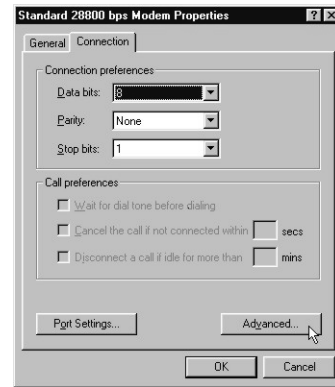

Figure 11 - Connection Properties
10. From the “Standard 28800 bps Modem Properties” select the “Connection” tab, then click on ADVANCED. (Fig. 11)